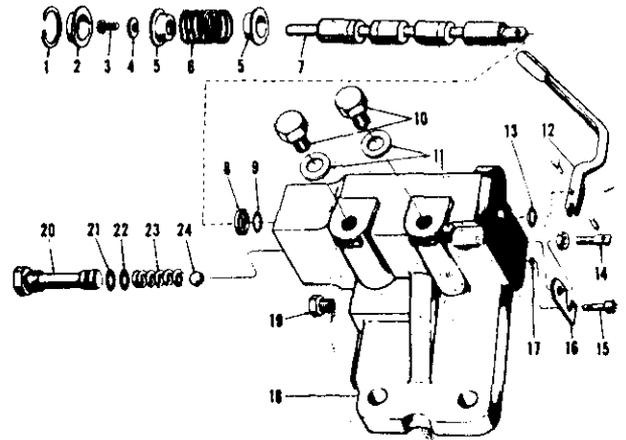
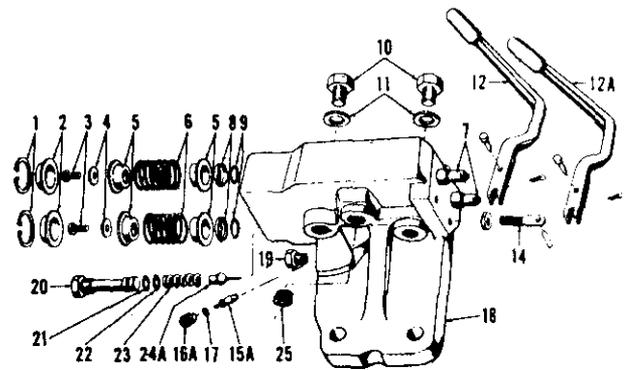

Fig. 425—Exploded view of single spool remote control valve without spool detent mechanism.
Fig. 426—Exploded view of two spool remote control valve without spool detent mechanism. Valve spools (7) are not shown removed; refer to (7—Fig. 425).
Single spool or double spool remote control valves, with or without detents, have been used on the model 2000, 3000 and 4000 tractors. Refer to Fig. 425 for an exploded view of the single spool, no detent valve, and to Fig. 426 for double spool, no detent valve, used prior to production date 5-70 (8-70 double spool).
370. Exploded views of the single spool and double spool remote control valves without spool detent are shown in Figs. 425 and 426. Either valve can be used with single or double acting remote cylinders. On single spool valve, open (turn out) the switch valve (15—Fig. 425) to operate a single acting remote cylinder from "LIFT" port of valve. On the double spool valve, back the Allen head screw (16A—Fig. 426) out two or three turns to operate a single acting cylinder from the "No. 1 LIFT" port. The valve levers must be held in raising or lowering position as the valve spools do not have detents. If valve is held open after cylinder reaches end of stroke, the tractor hydraulic system relief valve will open at approximately 2500 pounds pressure.
**373. CONTROL VALVE SPOOLS, CENTERING SPRINGS AND SEALS.** Remove the control levers by removing the clevis pins retaining lever to valve spools, then pull levers from pivot pins in the adjusting screws (14—Fig. 425 or 426). Remove the snap rings (1) that retain centering spring caps (2), then push or tap on rear (lever) end of valve spools to remove the valves (7), centering spring (6) assemblies and caps from front end of valve body. NOTE: On double spool control valves, be sure to tag the valve spools as they are removed as each valve is a select fit and not interchangeable. Remove screws (3) from ends of valve spools to remove centering springs (6), spring cups (5) and washers (4). Using a slide hammer with small internal pulling attachment (Nuday tool No. 7600-E or equivalent), remove the seal retainers (8) from valve bores. Remove the "O" rings (9 and 13) from valve spool bores.
To reassemble, proceed as follows: Lubricate the control valve spools and insert them into front (centering spring) end of valve body. Push the spools rearward so that rear ends are even with the "O" ring groove in valve body. Lubricate the "O" rings (13—Fig. 426) and using rear ends of valve spools as "back stops," insert the "O" rings in grooves in valve bores. Push the spools on through the "O" rings so that they extend about 3/4-inch from rear of valve body. Lubricate the front "O" rings and push them into bore around the front ends of valves, then install the retainers (8) using a special driver (Nuday tool No. N-651 or equivalent). Reinstall the centering springs and cups, flat washers, retaining screws, caps, snap rings and control valve levers.
adjusting screw (14—Fig. 425) and swing the retainer (16) out of way. Then, using an Allen wrench, unscrew the switch valve (15) from valve body. Remove and discard the "O" ring (17). Renew the switch valve if excessively pitted or distorted. Install and lubricate new "O" ring, then screw valve into valve body. Move the retainer into position and tighten adjusting screw lock nut while holding adjusting screw square with control lever.
**375. DOUBLE SPOOL SWITCH VALVE.** Using an Allen wrench, remove the set screw (16A—Fig. 426). Then, using needle nose pliers, pull the valve (15A) from valve body; remove
**376: CHECK VALVE.** To remove the check valve ball (24—Fig. 425) on single spool valve or the check valve poppet (24A—Fig. 426) on double spool valve, unscrew the plug (20) and remove spring (23) and ball or poppet. Remove the sealing "O" rings (21 and 22) from plug. Renew the ball or poppet valve if damaged in any way and renew the spring if free length is not equal to that of new spring.